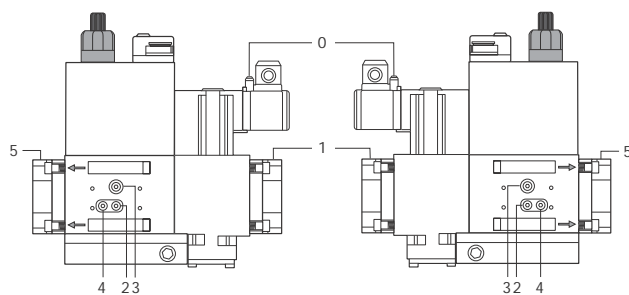
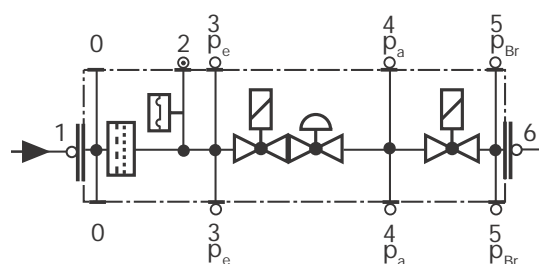

Fig. 36
Fig. 37
- Check and clean the gas filter cartridge (see Fig. 36), replace it if necessary;
- Change the filter if the pressure difference between pressure connection 1 and 2 (Fig. 36-Fig. 37) $\Delta p > 10$ mbar.
- Change the filter if the pressure difference between pressure connection 1 and 2 (Fig. 36-Fig. 37) is twice as high compared to the last check.